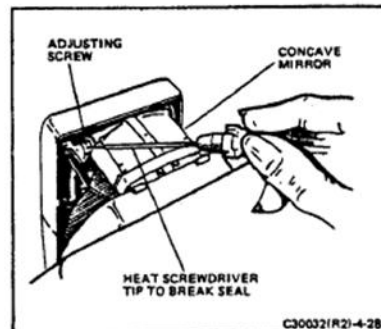

FIGURE 4-28 CONCAVE MIRROR ADJUSTING SCREW
- (1) If the exit pupil image seen in the gage is too high, turn the concave mirror adjusting screw (Figure 4-28) clockwise.